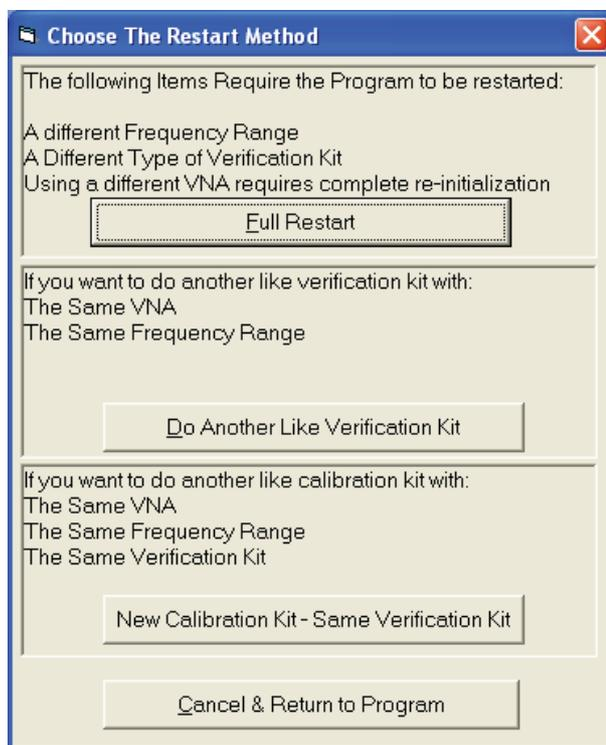

Figure 3-49. Choose The Restart Method Dialog
3. The Choose The Restart Method dialog box appears as shown in Figure 3-49.